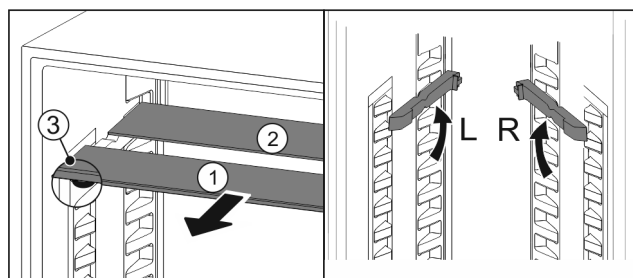

Fig. 143
- Pull the glass panels out Fig. 143 (1) from the front, one at a time.
- The glass panel Fig. 143 (1) and trim strip are at the front.
- The stops Fig. 143 (3) point down.